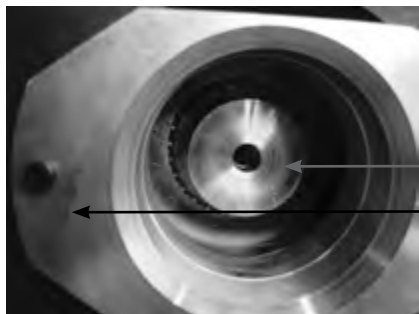

Fig. 9:
- Undo (SW4 spanner) the central encoder fixing screw (Ref. 3 fig. 9) on the motor shaft.
- Place the encoder support washer (Ref. 1 fig. 9) on the motor shaft extension. Make sure that it is firmly in place by hitting it gently with a drift and a hammer.
- Insert the encoder in the support piece (Ref. 2 fig. 9) fixed on the brake, then tighten the M5 X 50 chc central screw (SW4 torque wrench) to tightening torque 5 Nm 0/+0.5 Nm. Screw with removable threadlocker to be used a maximum of 3 times.